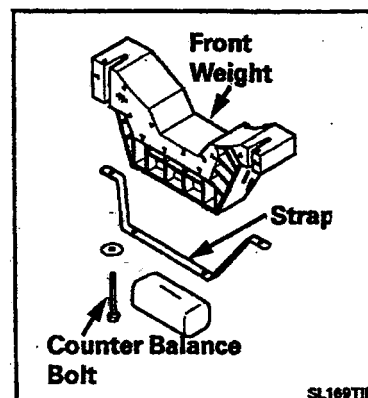

Figure 2-48
2. Remove the two bolts securing the weight to the outer tub assembly. Use a 9/16" socket (Figure 2-48).